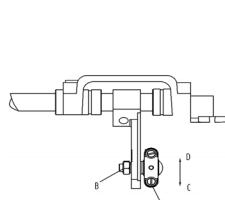

图18(Fig.18)
1.取下上盖，拧松连杆(A)上的螺帽(B)。(图18)
1.Take off cover and Release nut (B) on connector (A)。 (Fig.18)
2.Move connector (A) back and forth for more or less feeding length ,toward (C) dilection reduce feeding length.